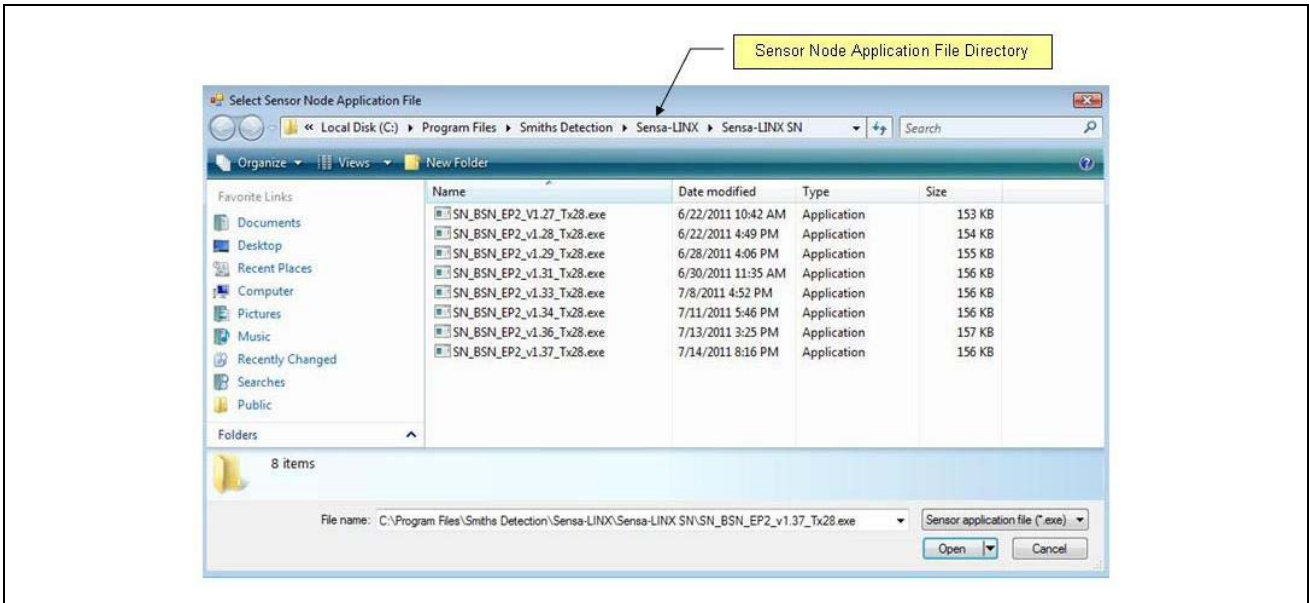
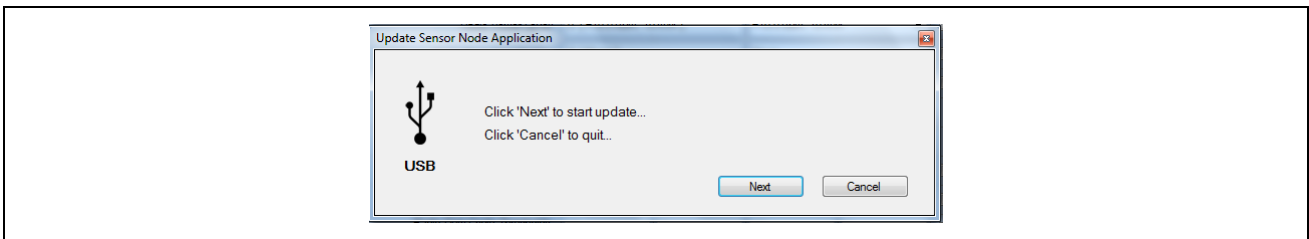

Figure 14 Select Sensor Node Application File Dialog
Figure 15 Start Update Dialog
- 11 The Select Sensor Node Application File dialog is displayed as seen in Figure 14. If the folder containing the Sensor Node Application file is not shown in the dialog then select the folder where the file was copied as described in paragraph 6.3.1.
- In the dialog shown in Figure 14, select the sensor node application file that was copied from the CD in paragraph 6.3.1 and click the Open button. The Start Update dialog seen in Figure 15 will appear. Click the Next button to start the update.